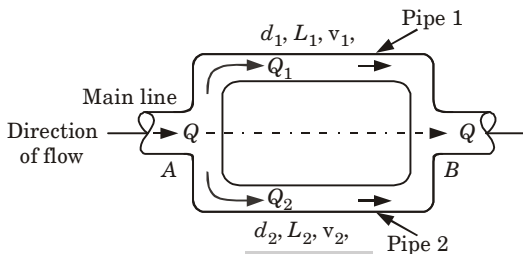

Fig. 3.13.2.
1. The pipes are said to be in parallel (Fig. 3.13.2) when a main line divides into two or more parallel pipes which again join together downstream and continues as a main line.
2. It may be seen from Fig. 3.13.2, the rate of discharge in the main line is equal to the sum of rate of flow through branch pipes.